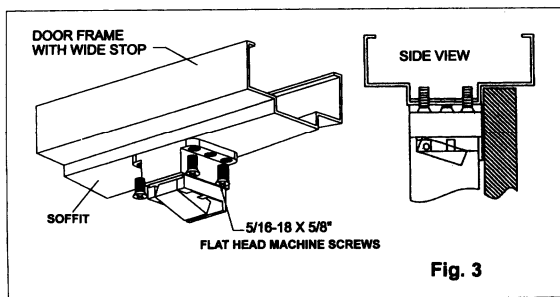

Fig. 3
1. Tighten the top bracket to the soffit with the fixing screws (5/16-18 x 5/8") provided. (See Fig. 3)